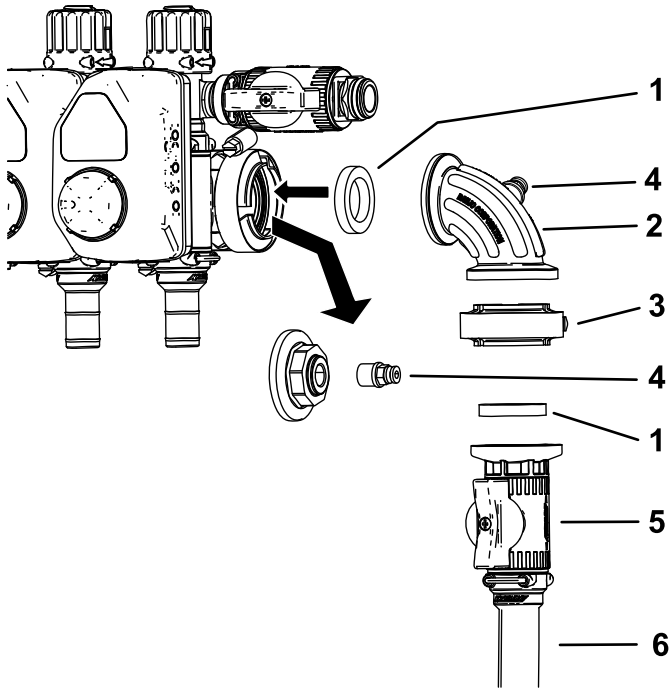

**Figure 22**
10. Assemble the green wing handle and straight fitting to the flanged control valve using the retainer as shown in Figure 22.